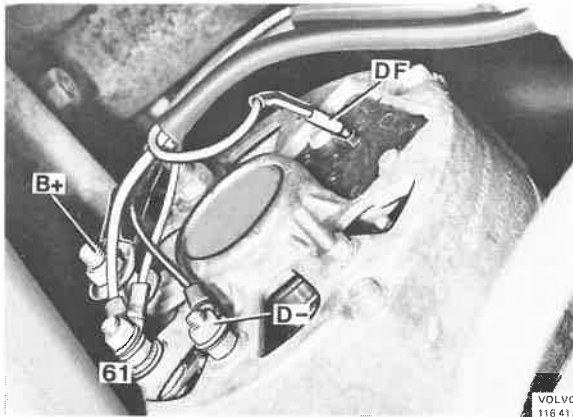

Fig. 32-6. Alternator cable terminals
2. Mark the cables to ensure that they are re-fitted in the same place on the alternator and then disconnect the cables, see Fig. 32-6.